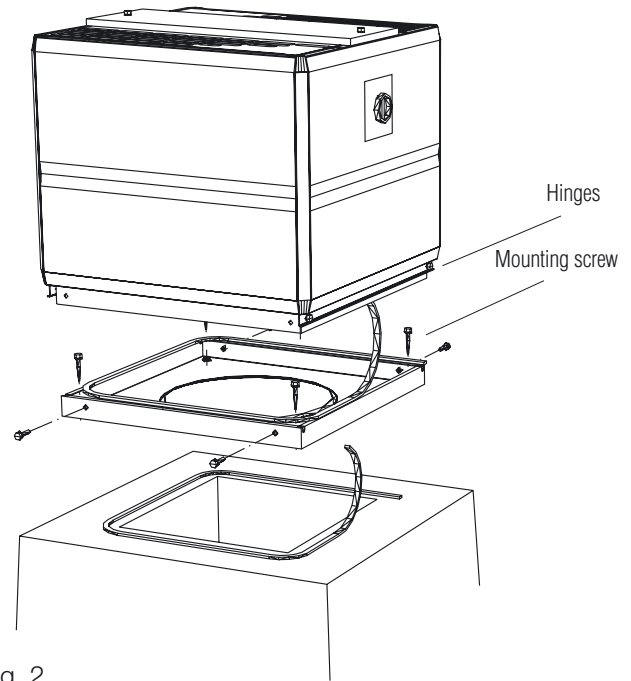

Fig. 2
1. Fit the sealing strip, supplied, to the chimney as shown in Figure 2.
3. Fit the sealing strip, supplied, to the upper edge of the mounting frame as shown in Figure 2.
4. Lift the power roof ventilator onto the mounting frame and secure it as described in item 3 under the heading “To mount the STEF on the BOGA roof duct”. See Figure 2.